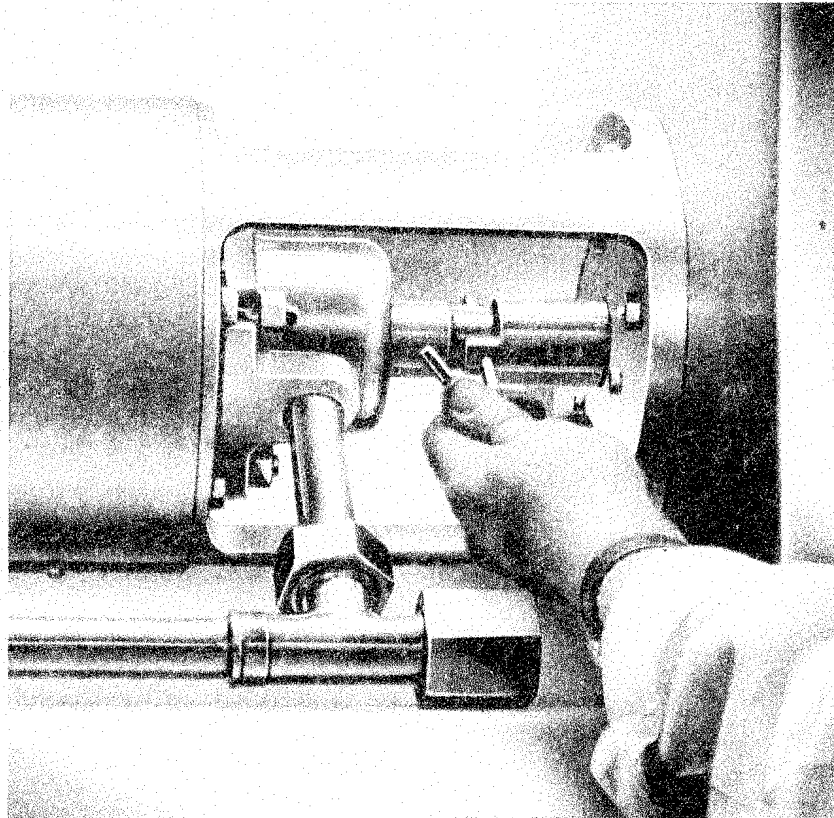

FIG. 3. SHEAR PIN LOCATION
4. Insert the dasher into the tube by sliding it on the dasher trough. Push the dasher back until the shear-pin hole is in line with its corresponding holes in the driving spindle. Lock it in position with the shear-pin tool provided. See figures 3 & 4.